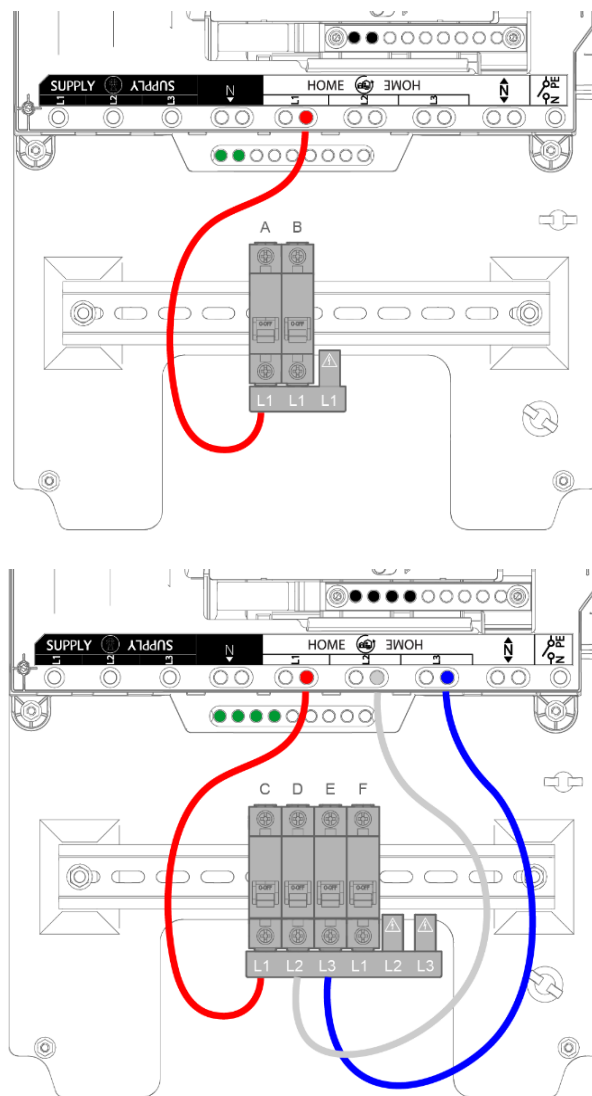

Figure 34: Wiring single-phase generation breakers, Example for single-phase (above) or 3-phase (below)
2. Connect the line conductors from the bussed generation circuit breakers to the Backup Gateway's Backup terminals (Figure 34). These conductors must be appropriately rated to carry the current of the main overcurrent protection device.